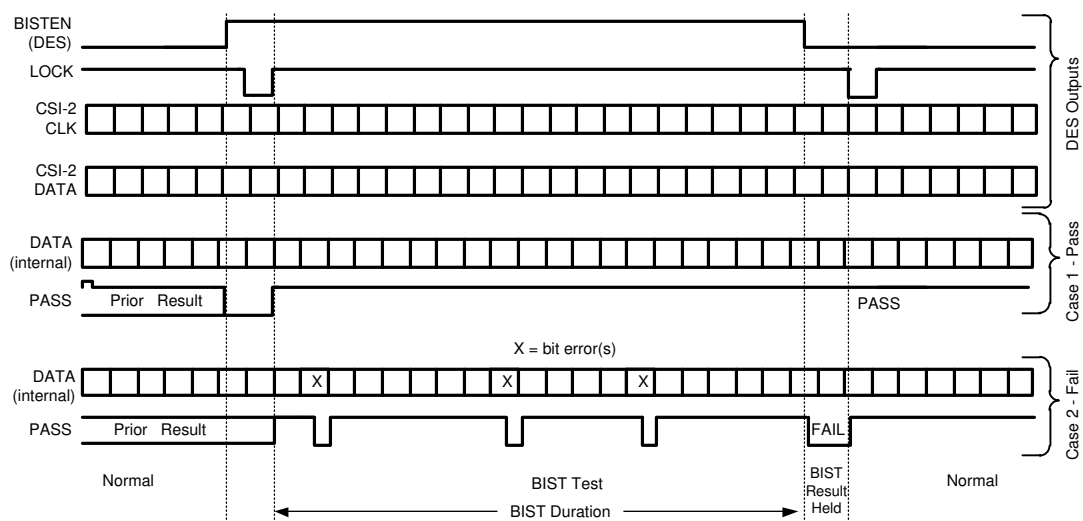

Figure 7-8. BIST Timing Diagram
- **Step 4:** The link returns to normal operation after the deserializer BISTEN pin is low. Figure 7-8 shows the waveform diagram of a typical BIST test for two cases. Case 1 is error free, and Case 2 shows one with multiple errors. In most cases, it is difficult to generate errors due to the robustness of the link (differential data transmission, etc.); thus, they may be introduced by greatly extending the cable length, faulting the interconnect, or by reducing signal condition enhancements (Rx equalization).